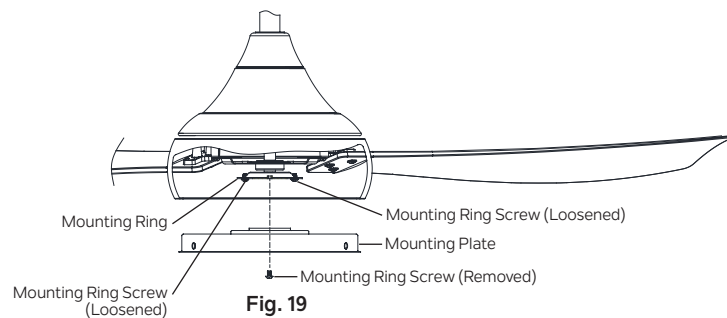

Fig. 19
Step 1. Loosen two of the mounting ring screws on the mounting ring attached to the motor shaft, and remove and save the third mounting ring screw. (Fig. 19)
Step 2. Place the key holes in the mounting plate over the 2 mounting ring screws that were loosened on the mounting ring, and turn mounting plate (clockwise) until it locks in place against the mounting ring screws at the narrow sections of the key holes. (Fig. 19)
Replace the third mounting ring screw that was previously removed, and tighten all 3 mounting ring screws to secure. (Fig. 19)